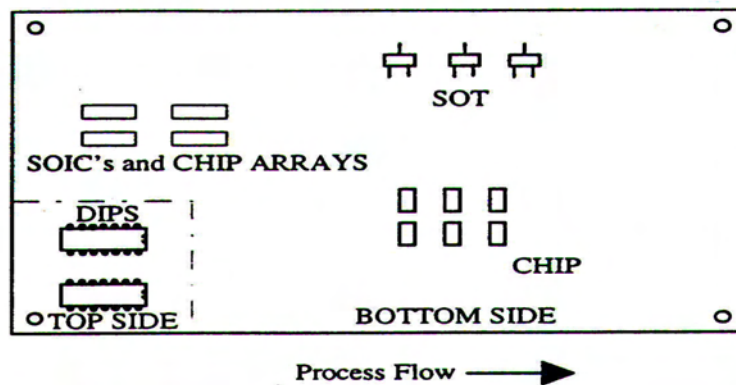

Figure 3.5.2: Bottom Side SMT Component Orientation
3.5.2 Bottom Side SMT Component Orientation – Figure 3.5.2 shows the proper orientation for bottom side components.